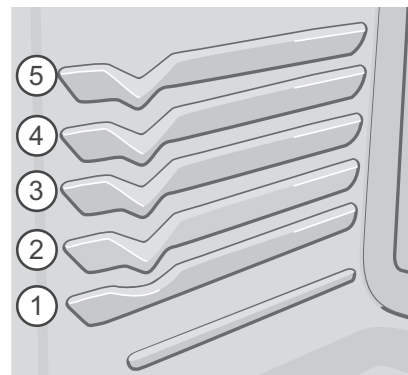

Figure 5: Rack position
- For best results when baking cakes using two oven racks, place racks in positions 2 and 4 (See Figure 5).